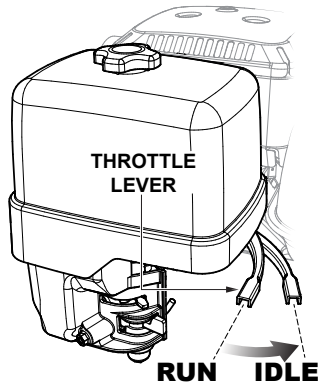

Figure 13. Throttle Lever (Idle)
1. Move the throttle lever to the **IDLE** position and run the engine for three minutes at low speed (Figure 13).
QUICKLY move the throttle lever to the **IDLE** position (Figure 13) and place the engine **ON/OFF** switch in the **OFF** position.